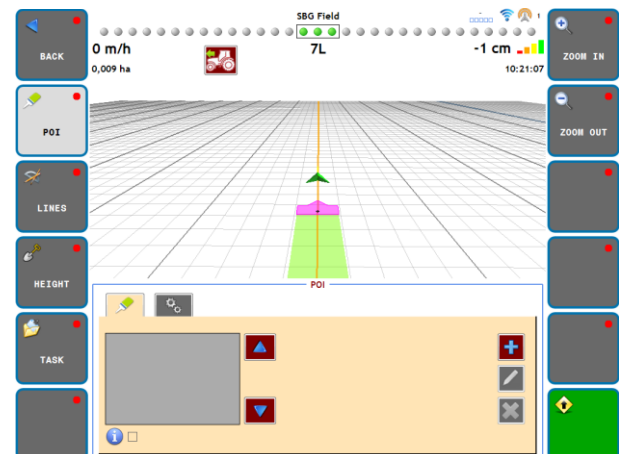
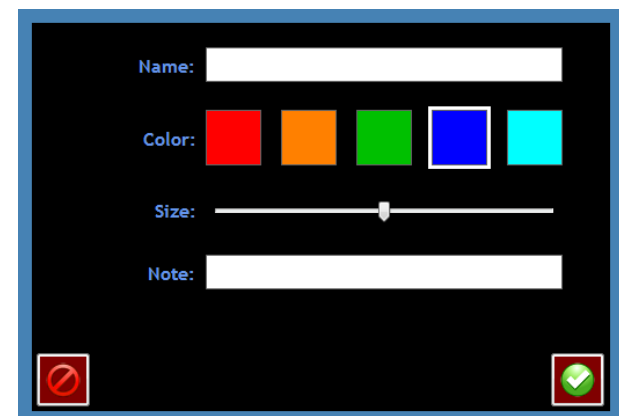

Figure 50 POI menu - Points of interest.
Figure 51 Add POI.
2. In the **POI**-menu (Figure 50) tap on the **+** button to add a POI. An input menu is displayed (Figure 51).